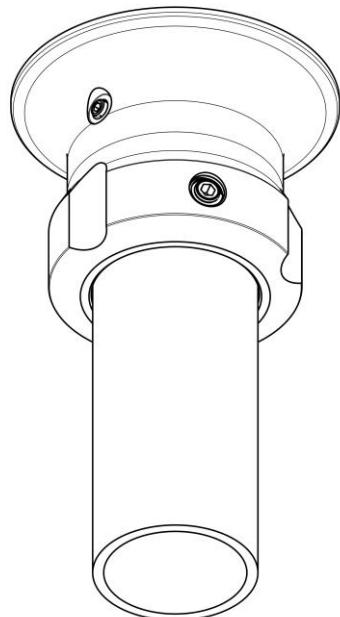
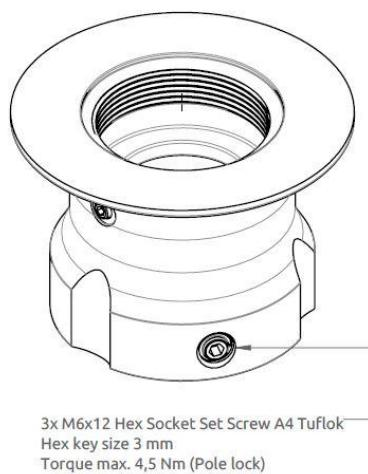
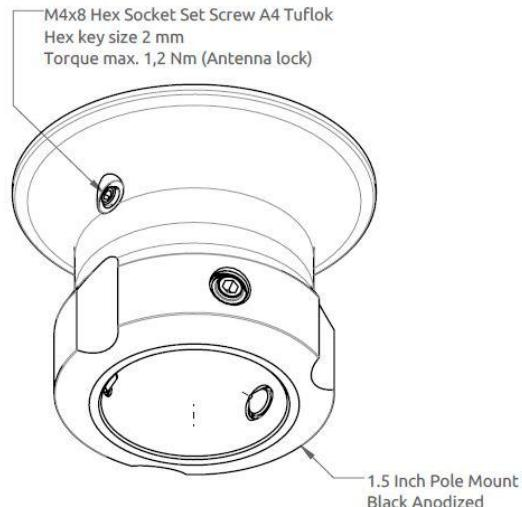

Figure 29: Pole Mount (1.5" pipe, 38.8 mm), Antenna Unit
Figure 30: Pole Mount (1.5" pipe, Ø38.8 mm), Antenna Unit
Figure 31: Pole Mount (1.5" pipe, Ø38.8 mm), Antenna Unit
The Pole Mount (1.5" pipe, 38.8 mm), Antenna Unit is illustrated in Figure 29 to Figure 31.
4. Screw the pole mount (clockwise) on the LT-3130 Antenna Unit, and fasten the antenna lock pinot screw, as illustrated in Figure 31 (max torque = 1.2 Nm)
5. The LT-3130 Antenna Unit and pole mount can now be mounted on the 1.5" pipe. Fasten the three pole lock pinot screws, as illustrated in Figure 30 (max torque = 4.5 Nm)
The Pole Mount (1.5" pipe, Ø38.8 mm), Antenna Unit only support a 1.5" pipe. The pinot screws (antenna and pole lock) torques are specified in Figure 30 and Figure 31. The pole mount is made of milled aluminum (anodized). The pinot screws are made of A4 stainless steel.